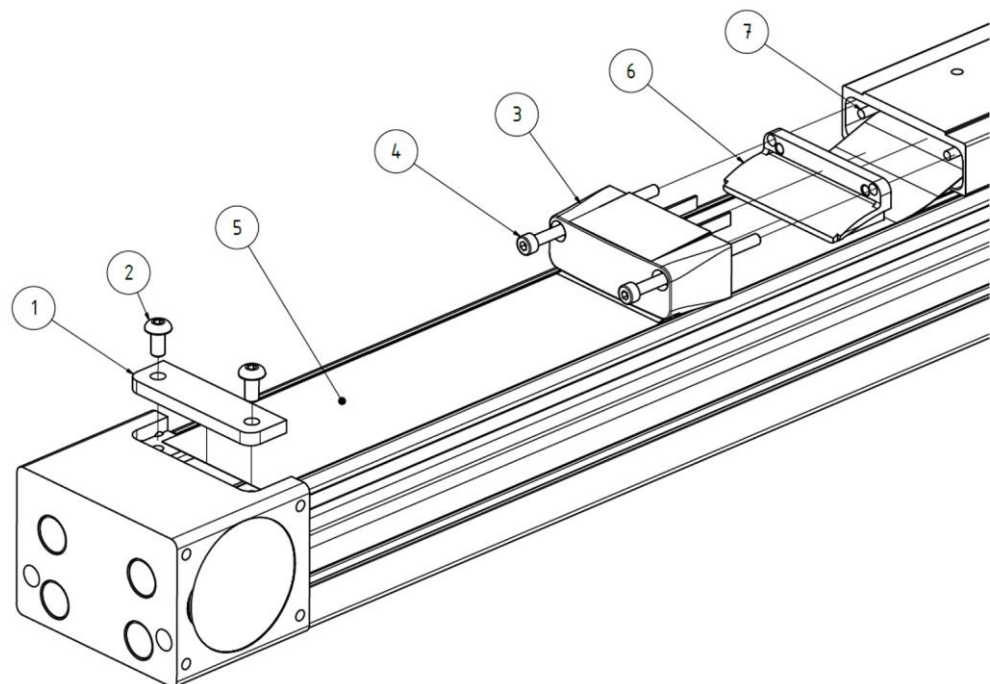

Figure 13: Disassembly of steel strip cover
- ◆ Loosen one of the steel strip cover terminal strips (see Figure 13, Pos. 1) Do not entirely screw-off screws
- ◆ Steel strip cover releases automatically (see Figure 13, Pos. 5) as soon as the terminal strip was loosened.
- ◆ Retighten the screws of the steel strip cover terminal strips (see Figure 13, Pos. 2) with the tightening torque (see page 43) indicated and resume operation of the linear axis (of the entire system).
- ◆ Loosen screws (Figure 13, Pos. 2) of the steel strip cover terminal strips on both deflection stations (Figure 13, Pos. 1) and remove terminal strip.
- ◆ Remove screws of both carriage lids (Figure 13, Pos. 4) and remove carriage lid (Figure 13, Pos. 3).
- ◆ Carefully pull out steel strip cover (Figure 13, Pos. 5).
- ◆ Carefully pull out steel strip deflections (Figure 13, Pos. 6) and steel strip sliding rods² (Figure 13, Pos. 7).
- ◆ Thread the steel strip deflectors (Figure 13, Pos. 6) left and right onto the steel strip cover. When installing the old steel strip deflectors, clean them before reinstalling them.
- ◆ Carefully push the steel strip sliding rods (Figure 13, Pos. 7) through the carriage profile and the steel strip covers. Make sure that the steel strip sliding rods are seated in the profile over the entire length of the carriage and do not hang out downwards.
- ◆ Fit the carriage lid (Figure 13, Pos. 3) on both sides and tighten the screws (Figure 13, Pos. 4) to the required tightening torque (see Table 13). Clean the lip seal before assembling the old lid.
- ◆ Clamp the steel strip cover (Figure 13, Pos. 5) with steel strip cover terminal strip (Figure 13, Pos. 1) on one of the two deflection station. Tighten screws with the respectable tightening torque (see Table 13).
- ◆ Smooth the steel strip cover (Figure 13, Pos. 5) in the direction of the second deflection station by hand and clamp it to the deflection station using the steel strip cover terminal strip. Tighten screws to the respectable tightening torque (see Table 13).
Tightening torque of the carriage lid (Figure 13, Pos. 4)
Tightening torque Steel Strip Option (Figure 13, Pos. 2)